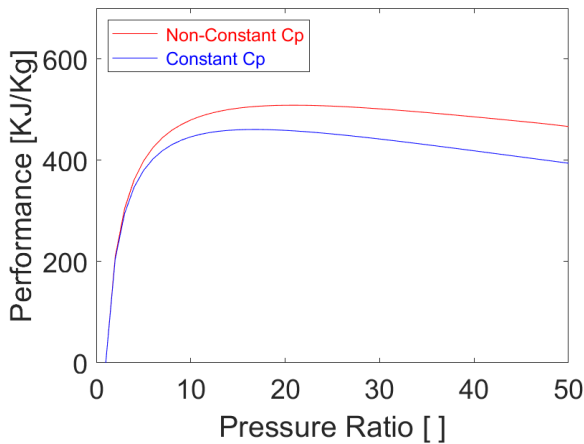

Figure 1 - Varying performance with changes in compressor pressure ratio
- Figure 1 illustrates the increase in performance of the jet engine cycle with increasing pressure up to ~15 where it begins to level out and drop slightly. The difference between constant and non-constant specific heat illustrates the error involved assuming constant specific heat with large temperature changes.
- For figures 1 and 2, pressure ratio shows a logarithmic growth and maximum combustor temperature shows a linear growth because